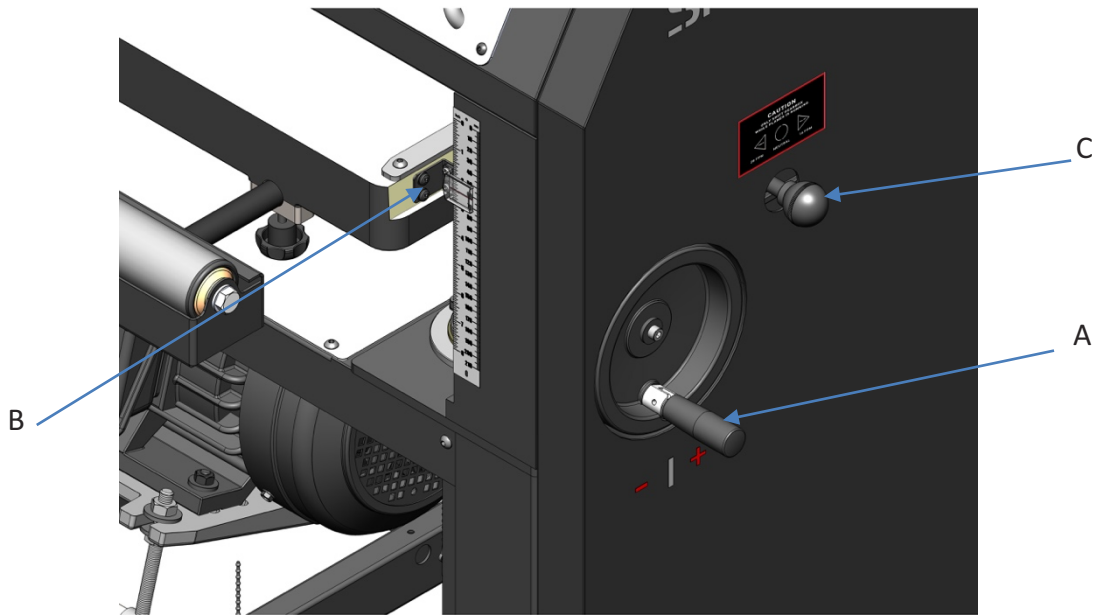

Figure 8: Thickness Scale Adjustment
2. Use the Table Height Adjustment handle (Fig. 8, A) to raise the table until the infeed roller is approximately 1/16" (1.6mm) above the calibrating board.
8. Loosen the screws of the Thickness Scale pointer and adjust the pointer (Fig. 8, B) until it corresponds to the measured thickness and tighten the screws.